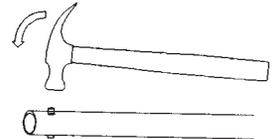

Figure 5
4. **Drive roll pin** through so that ends project equally as in Figure 5.